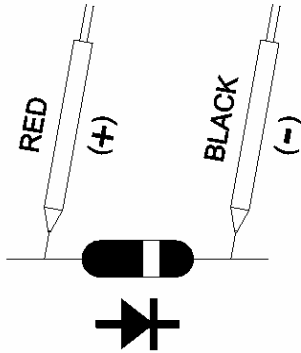

Fig. 2
- 4) a. When connected with polarity as shown in Fig. 2, a forward current flow is established and the approx. Diode Forward Voltage (VF) value in volt will appears on the display reading. If the diode under test is defective, " 0.000 " or near " 0.000 " value (short circuit) " - - - - " (open circuit) will be displayed.